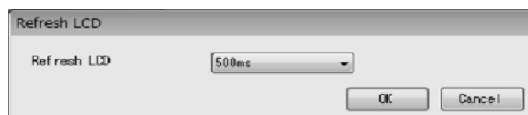

Fig.79
- ① Click "Setup (S)" > "LCD" > "Refresh LCD" in the menu.
- ② The following window will be displayed (Fig. 79). Set the display update frequency for displaying measurement values on the LCD here.